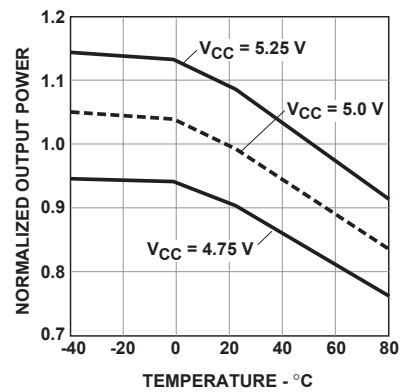

Figure 4. Typical normalized optical power vs. temperature (in recommended drive circuit)
- Minimum and maximum values for P_T over temperature are based on a fixed drive current. The recommended drive circuit has temperature compensation which reduces the variation in P_T over temperature; refer to Figures 4 and 6.